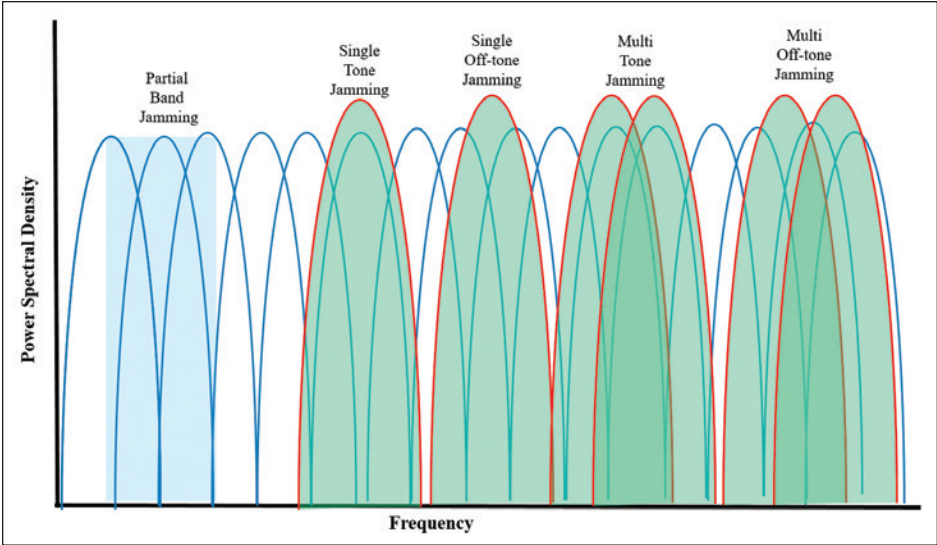

Figure 1: Different jamming attacks on LTE downlink [1]
Barrage jamming (BJ) is the most basic jamming technique. This is highly effective when there is no prior knowledge of the network. The entire spectrum of the target signal is jammed by transmitting band-limited noise to the system. This means the signal-to-noise ratio (SNR) decreases over the entire bandwidth. BJ is the most inefficient method of jamming. It requires a lot of power but is taken as a baseline for comparing the efficiency of other forms of jamming and their corresponding effectiveness. More information on BJ analysis can be found in [2]. Figure 1 on page 116 presents the spectrum for a BJ attack.
Partial band jamming (PBJ) is a technique in which a certain portion of the entire system bandwidth is targeted and jammed by transmitting additive white Gaussian noise (AWGN) over this specific bandwidth. When the power of the jamming signal is constant, the effectiveness of the jamming depends directly on the fraction of the jamming bandwidth and the signal bandwidth. More information on PBJ can be found in [1,2]. In Figure 1, the part of the spectrum affected by PBJ can be seen.
Figure 1 shows the effect of STJ on the spectrum. STJ can also be considered as a special case of PBJ. A more analytical investigation of the STJ can be found in [2]. In STJ, the knowledge of the target system's carrier frequency is required in order to jam the target signal.
Figure 1 shows an illustration of an MTJ attack on the spectrum. In MTJ, knowledge of the target system's carrier frequency is required.
Also, the side lobes of the signal (sync function) are not aligned with the OFDM subcarriers because frequency offset can have non-zero components at the sampling period that can be a source of ICI. One advantage of AOTJ is that the jamming signal does not need frequency matching with the target signal or any channel state information (CSI). AOTJ demonstrates superior performance compared to BJ, STJ, and MTJ. An example of the two types of AOTJ can be seen in Figure 1.